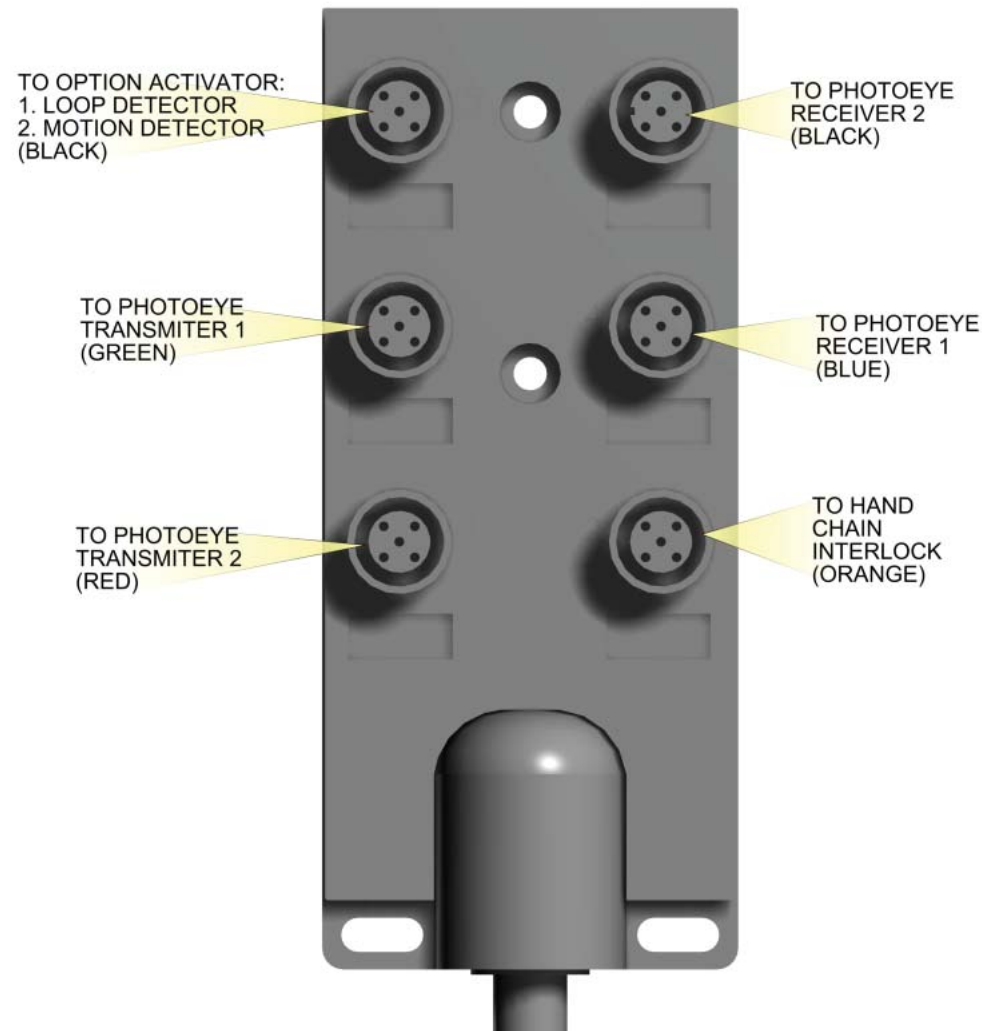

Fig 19 JUNCTION BOX WIRING
- The assistant(s) will need to push the bottom bar over the idler barrel and down towards the bell mouth while it is being lowered with the hand chain, so it will be routed correctly as shown in FIG 19.
- Be sure the curtain assembly passes behind the idler barrel and into the bell mouth and guides as shown in FIG 19.